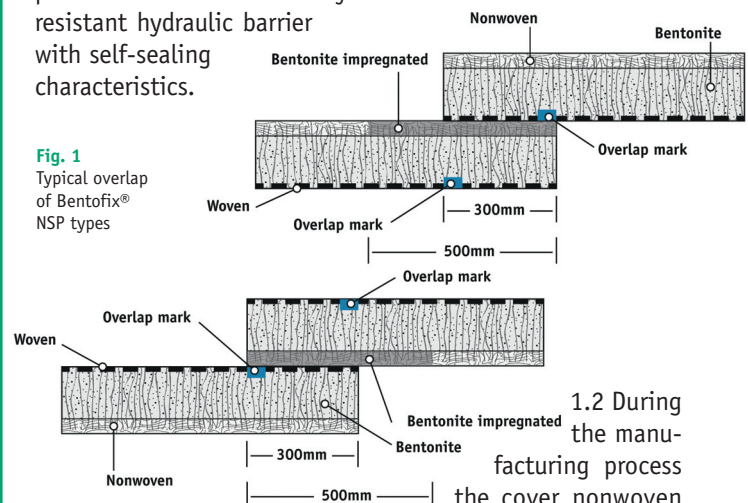

Fig. 1
1.2 During the manufacturing process the cover nonwoven geotextile of Bentofix® NSP types is impregnated during the production with bentonite powder at the edges on both sides in length direction in a width of 500mm (logitudinal overlaps) (fig. 1). This bentonite impregnation allows a simple self-sealing overlap at the edges in length direction, without any supplemental bentonite placement on site.